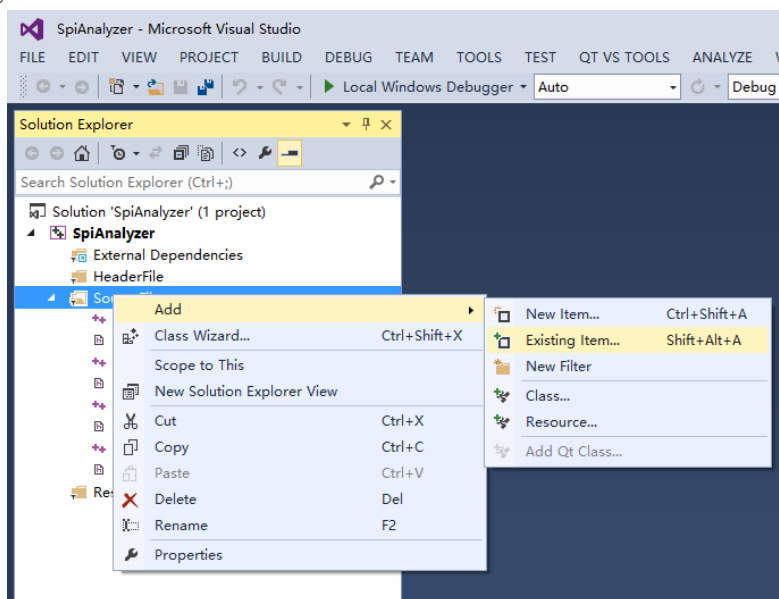

Fig.5
4. Right click on **Source Files** and choose **Add->ExistingItem** as shown in Figure 5 ,then open